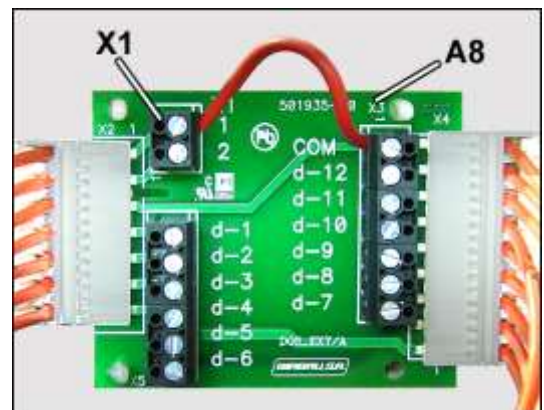

Fig. 3.16
- Supply terminal identified as **COM** from terminal **X1-1** of **A8** board (cable not supplied), Fig. 3.16.